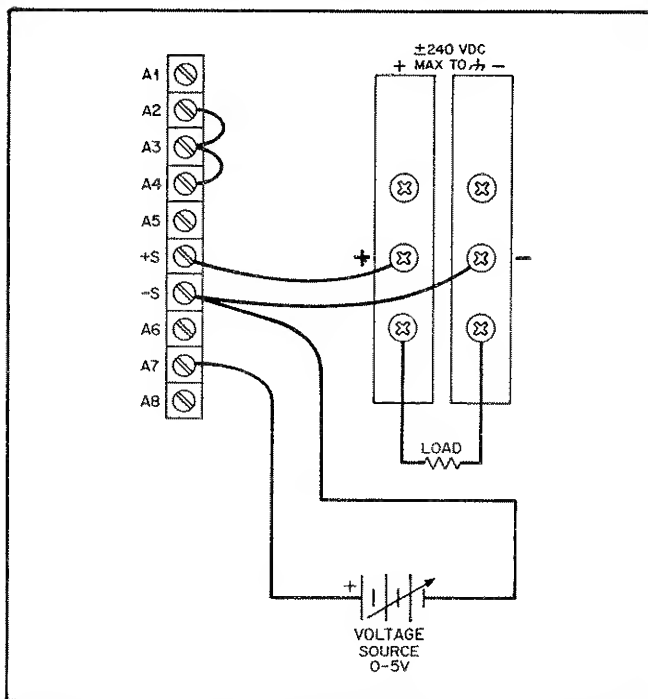

Figure 3-7. Voltage Programming of Output Voltage
**3-53 Voltage Programming of Output Voltage.** The rear-panel connections shown in Figure 3-7 allows the output voltage to be varied by using an external voltage source to program the supply. A voltage source variable from 0 to +5 volts produces a proportional output voltage from zero to full scale. The load on the programming source is less than 5  $\mu$ A.